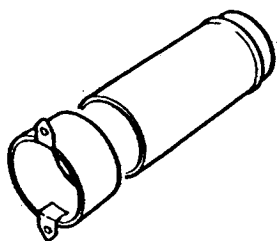

Fig. 62
4. Remove the wall liner from its packing and remove the end piece (Fig. 62).